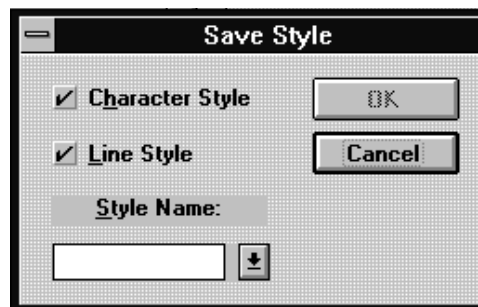

Figure 5-26
2. When the Save Style dialog box displays (Figure 5-26), click one or both: Character Style to save the alphabet and its parameters, Line Style to save the line type and its parameters, (check marks appear next to selected choices).